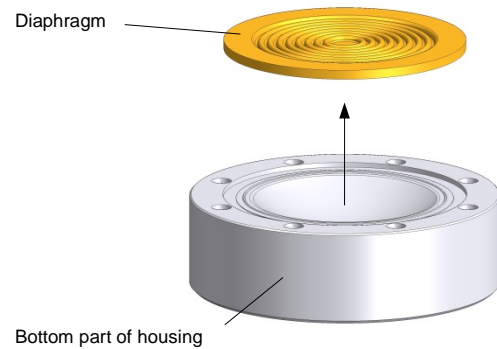

Fig. 18 Diaphragm replacement
- Remove the diaphragm (see Fig. 18).